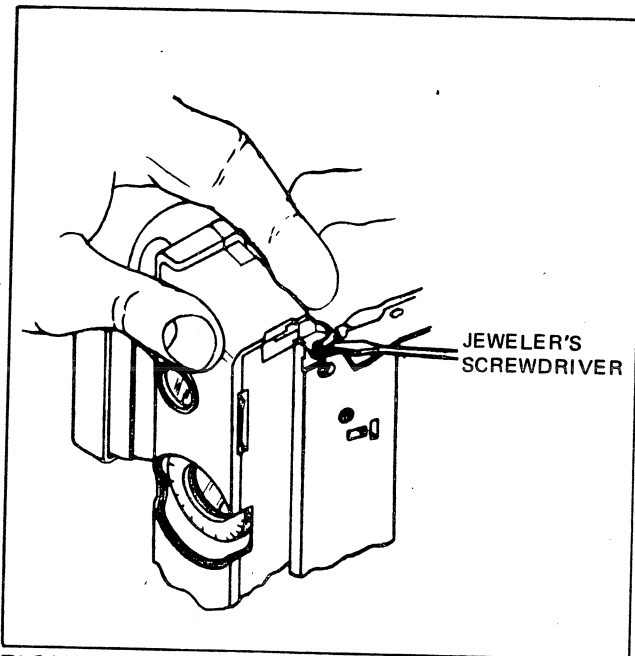

FIGURE 4-33 RELEASING SHUTTER MOUNT HINGE BRACKETS
3. Using the blade of a jeweler's screwdriver, spring the shutter mount hinge bracket on each side just enough to release the pins. See Figure 4-33. This will release the shutter mount from the bottom plate.